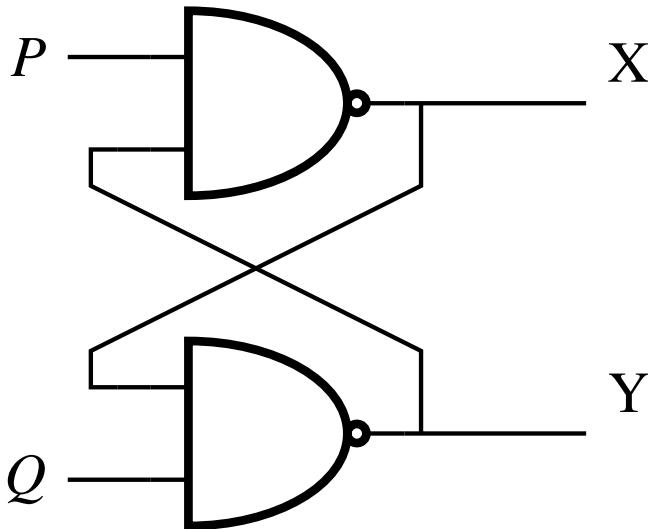

Fig. 5.33
37. In the latch circuit shown in Fig. 5.33, the NAND gates have non-zero but unequal